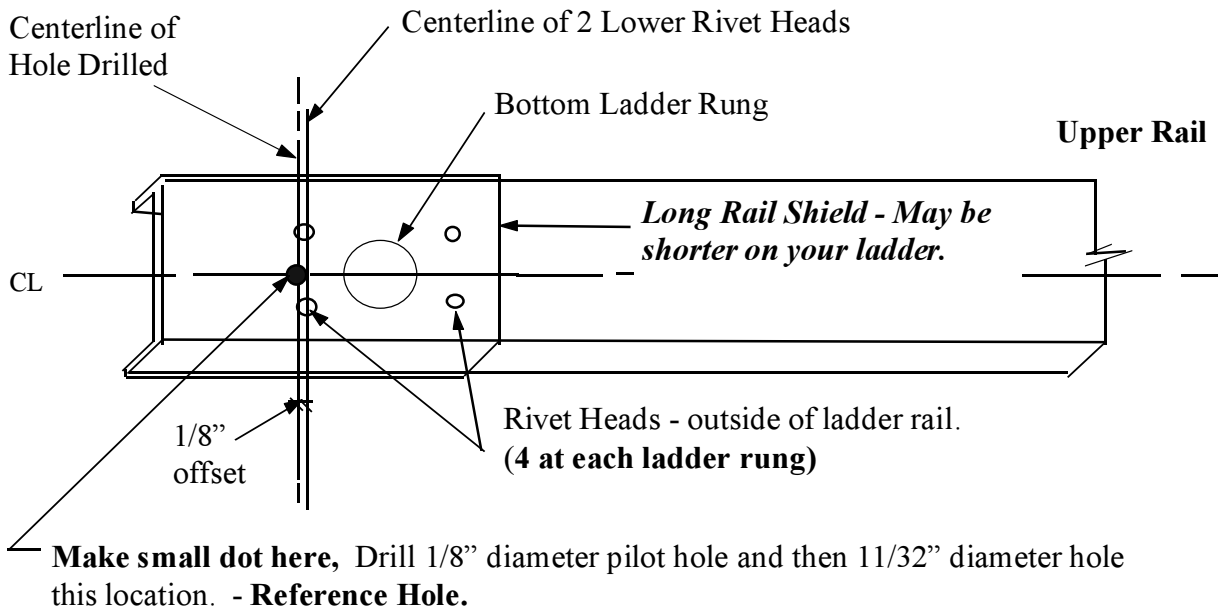

Figure 3-1A
2. Locate the 4 rivet heads at the lowest (first) ladder rung. These rivets secure the rung plate onto the ladder rail. (See **Figure 3-1A** for Werner and similar ladders and **Figure 3-3A** for Louisville and similar ladders). This next step will locate the first hole to be drilled. Using a black felt pen, mark a dot between the two rivet heads as shown in **Figure 3-1A** for Werner and similar and **3-3A** for Louisville and similar ladders. Drill a 1/8" diameter pilot hole at this dot. Next, drill an 11/32" diameter hole at this same location. This hole is to be drilled through the outer face of the ladder rail and all the way through the metal flange of the inside rung plate.
- **IMPORTANT NOTE:** Skip Step 6 if your ladder does not have a long, METAL, FOOT ASSEMBLY / RAIL SHIELD, as shown in either Figure 3-1A or 3-3A.